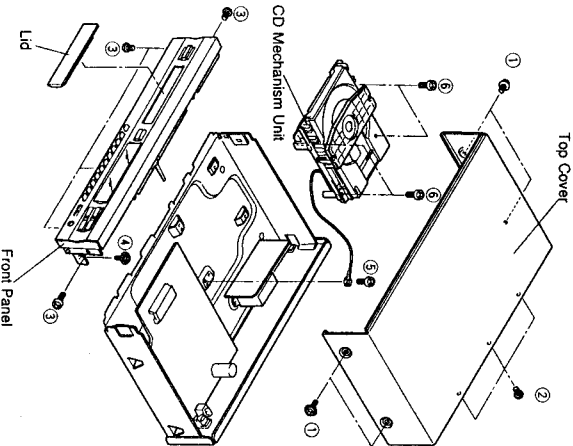

Fig. 1
- a. Remove 4 screws (①) and 3 screws (②) in Fig. 1.
- d. Remove 5 screws (③) and 1 screw (④) in Fig. 1.
- b. Remove 1 screw (⑤) in Fig. 1. (CDX-593 only)
- c. Remove 4 screws (⑥) in Fig. 1.